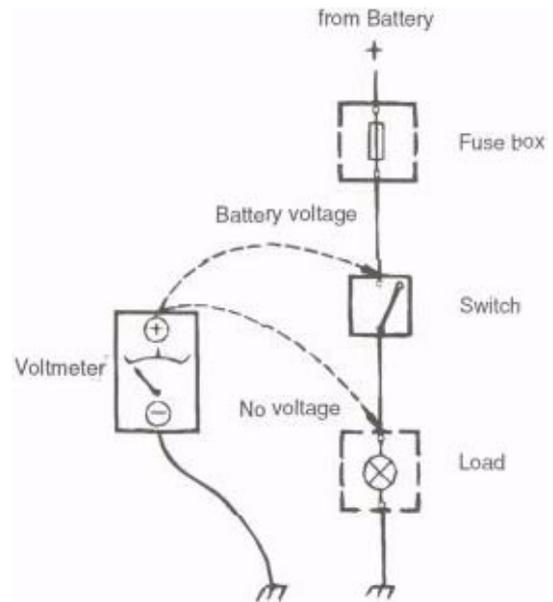

Fig. 2. Voltmeter being used to check for voltage,
2. Connect the voltmeter positive lead to the point in the circuit you wish to measure. See Fig. 2. If a reading is obtained, current is flowing through the circuit.